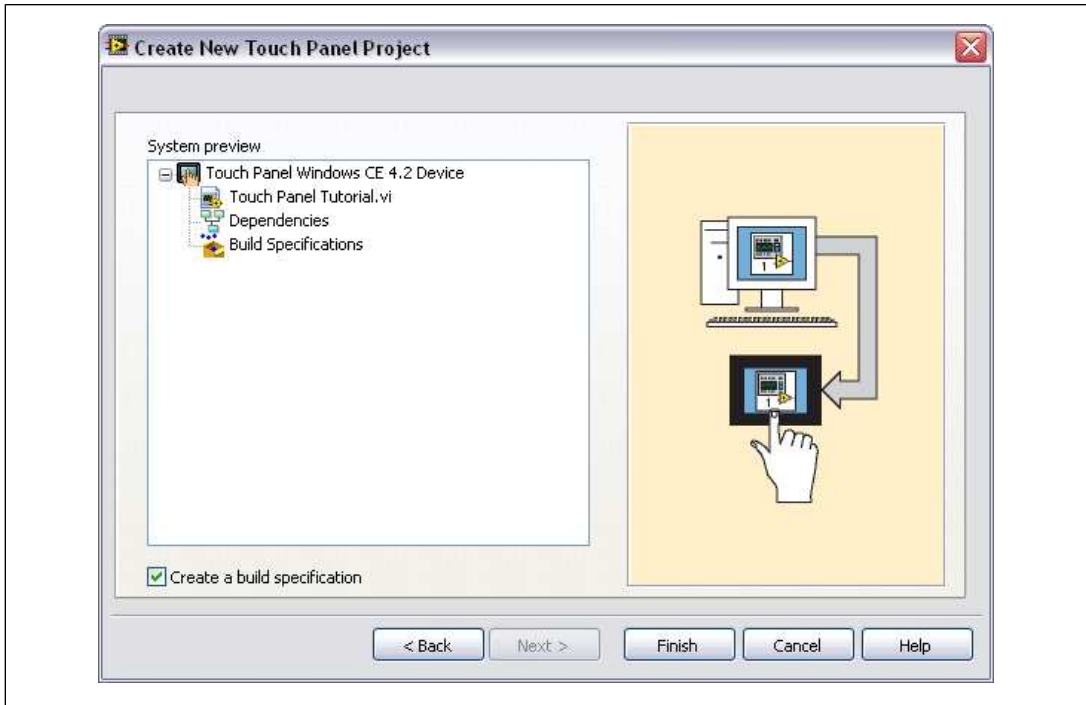

Figure 4. Previewing the Project
8. Click the **Finish** button. Because the **Create a build specification** checkbox contains a checkmark, as shown in Figure 4, the **Touch Panel Build Specification Properties** dialog box opens. Refer to the Creating the Build Specification section for more information about creating a build specification.